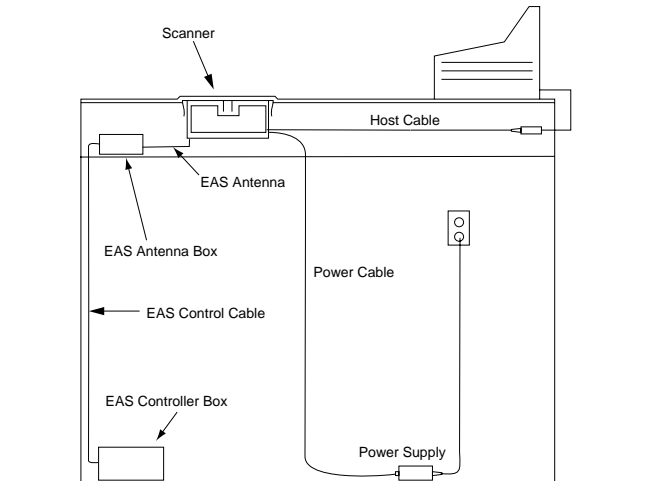

Figure 7. Typical EAS Installation
- The EAS antenna, EAS antenna box, EAS control cable, and EAS controller box must be as far as possible from the scanner's host and power cables. See Figure 7.